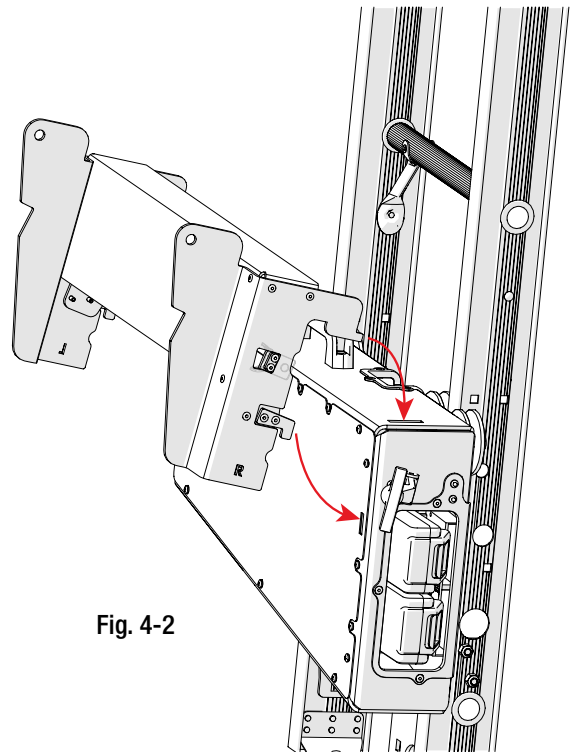

Fig. 4-2
2. Holding the base mount at a slight angle, align the upper taps with the slots on top of the TranzVolt Carriage. Insert top taps into TranzVolt Carriage. See Fig. 4-2.